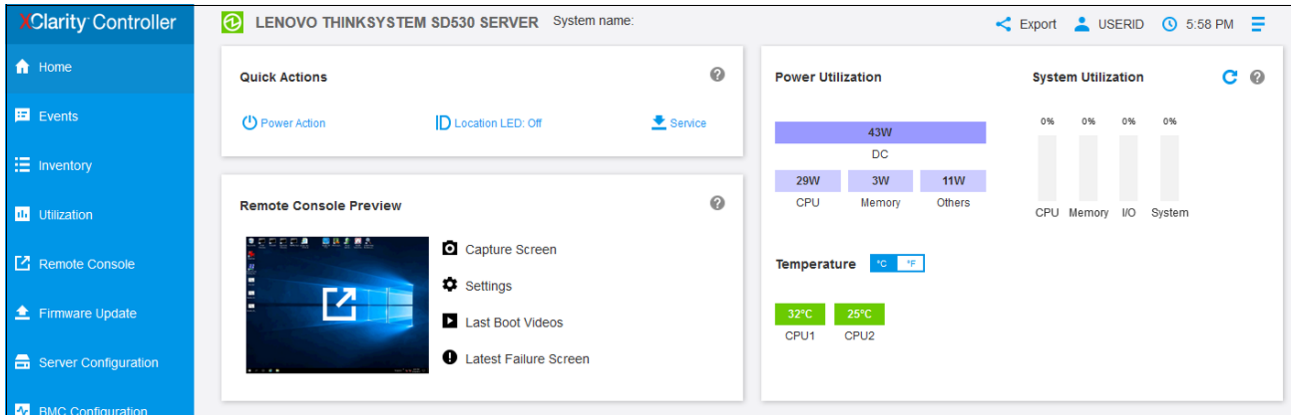
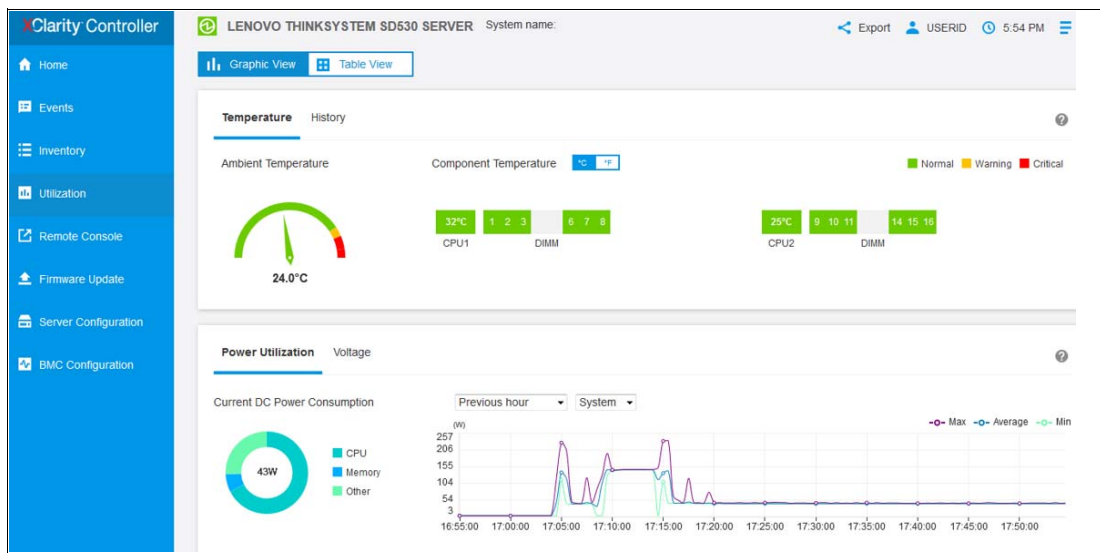

Figure 8 Power consumption metrics
Figure 9 Power consumption history
- ▶ **XClarity Controller (XCC):** Power meter data can be read using the GUI or the command line (CLI). Examples of the web interface as shown in Figure 8 on page 15 and Figure 9 on page 15.